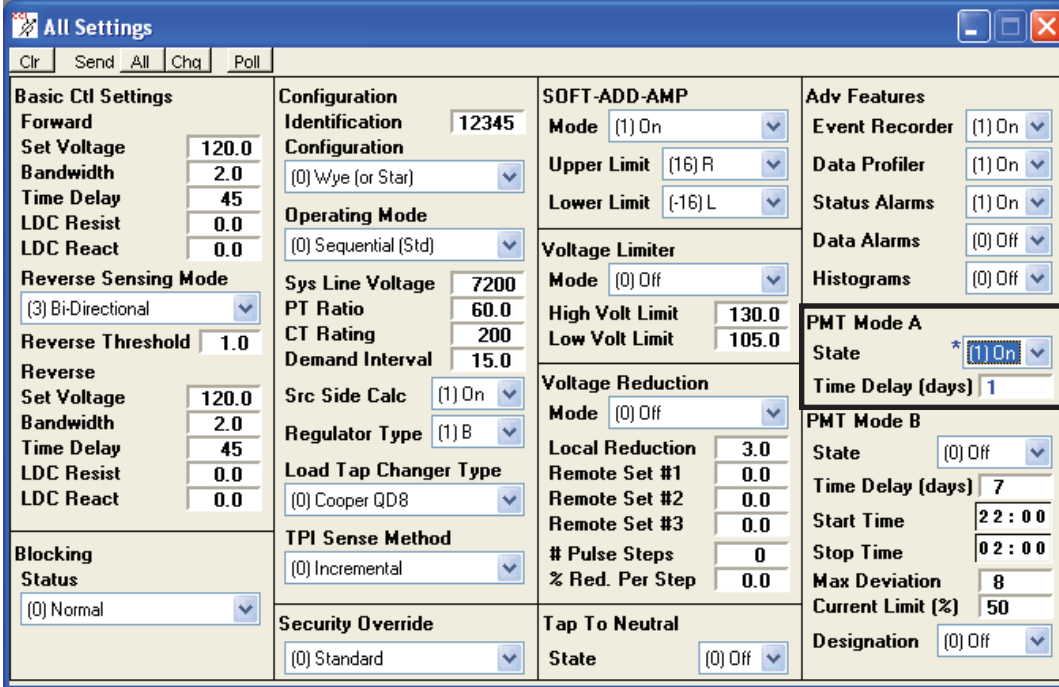

Figure 6. All Settings.
The Tap-Changer Motor Trouble Problem Diagnostics Output (TCMT) can be combined with the Preventative Maintenance Tapping (PMT™) feature to regularly test the motor circuit. By setting up the TCMT and then enabling PMT Mode A configured with a 1 day countdown timer, as shown in Figure 6, the control will exercise the motor circuit a minimum of once a day. The complete operation takes less than 1.5 seconds to perform with a Quik-Drive™ (QD) Tap-Changer on a Cooper Power Systems Voltage Regulator.